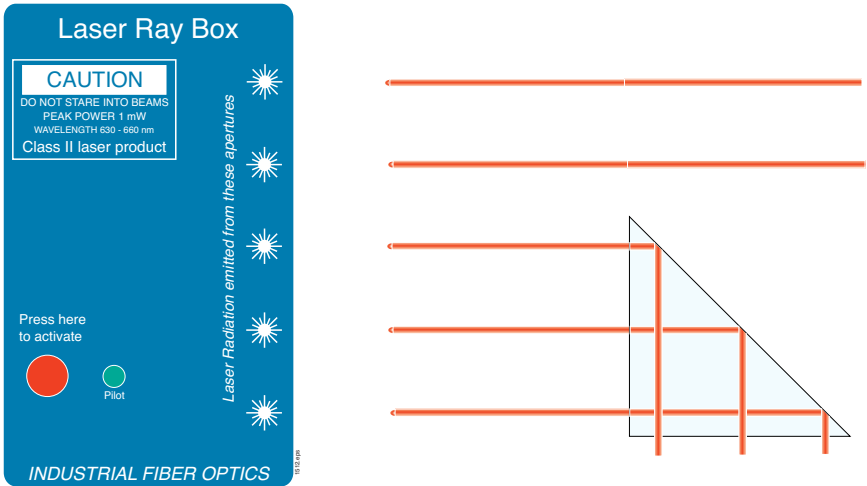

Figure 8. Laser Ray Box with a right angle prism demonstrating the reflection of light rays from the interior prism surface.
8. Another important demonstration is the phenomena of *total internal reflection*. Set a right angle prism to intercept two or more light beams as you hold down the momentary switch, as shown in **Figure 8**. You should now see a pattern as depicted. The reflection of the beams from the interior surface of an optical material illustrates a basic but very important principle. Total internal reflection is what allows light to be “transported” inside fiber optic cables used in communication networks.